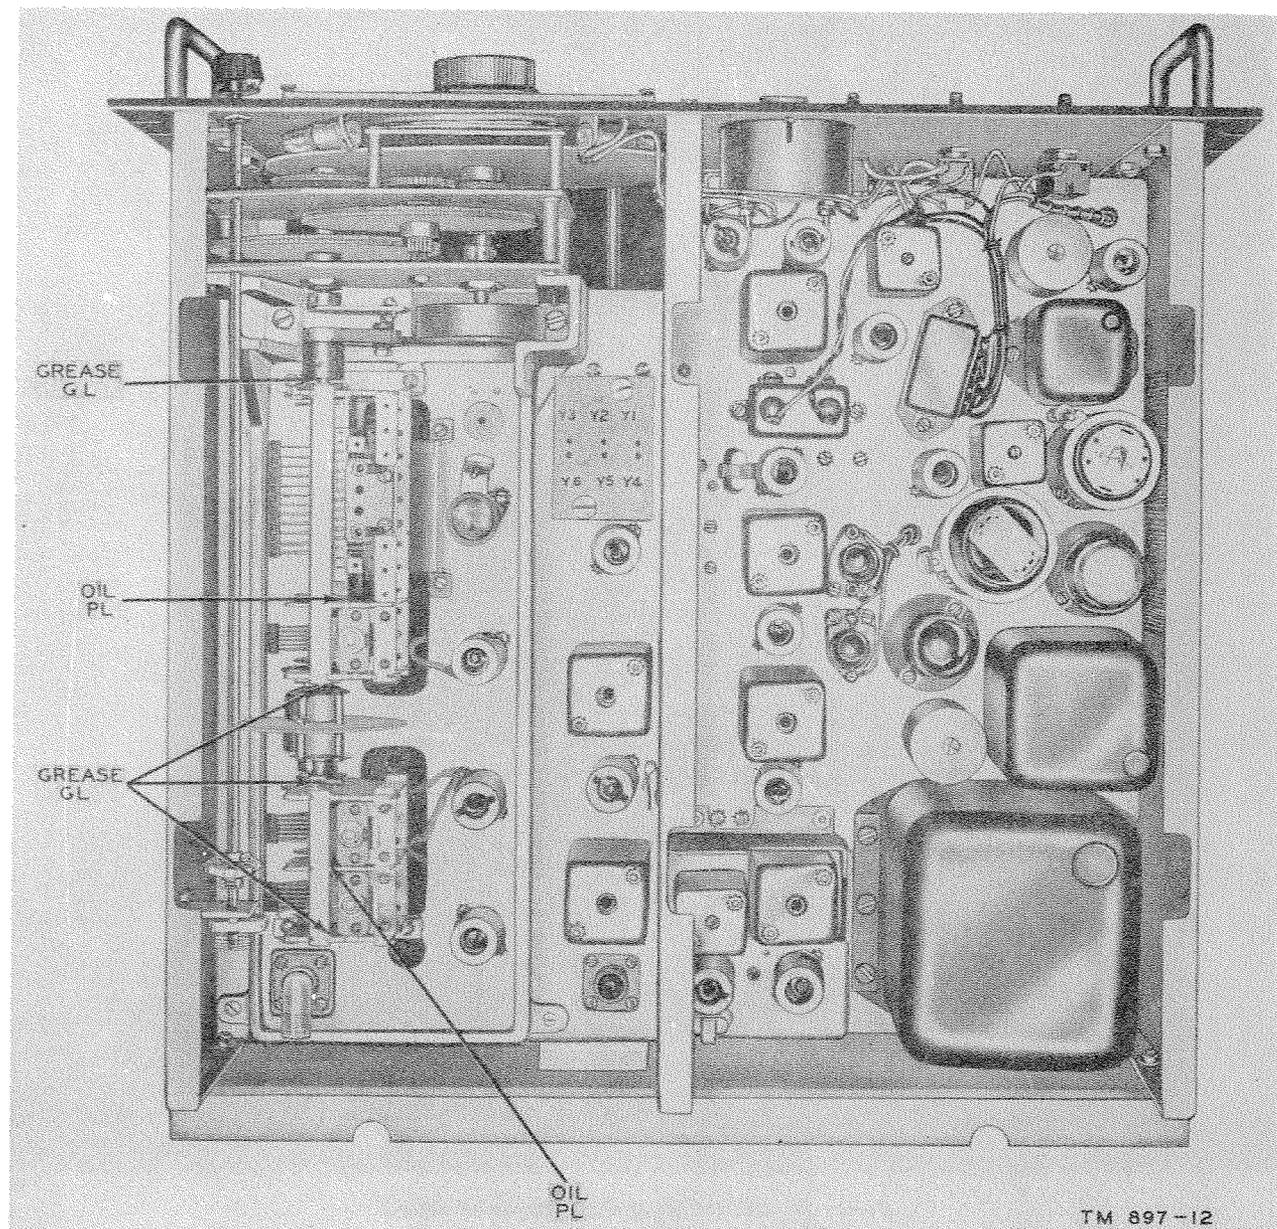

Figure 12. Lubrication of shafts, top of chassis.
d. Gang Tuning Capacitors. The bearings of tuning capacitors C1 and C2 require frequent lubrication, since they are probably the most used parts in the receiver. Figure 12 is a top view of the chassis, showing the points to be lubricated with grease. Dirt in these bearings may possibly cause noisy operation of the receiver.